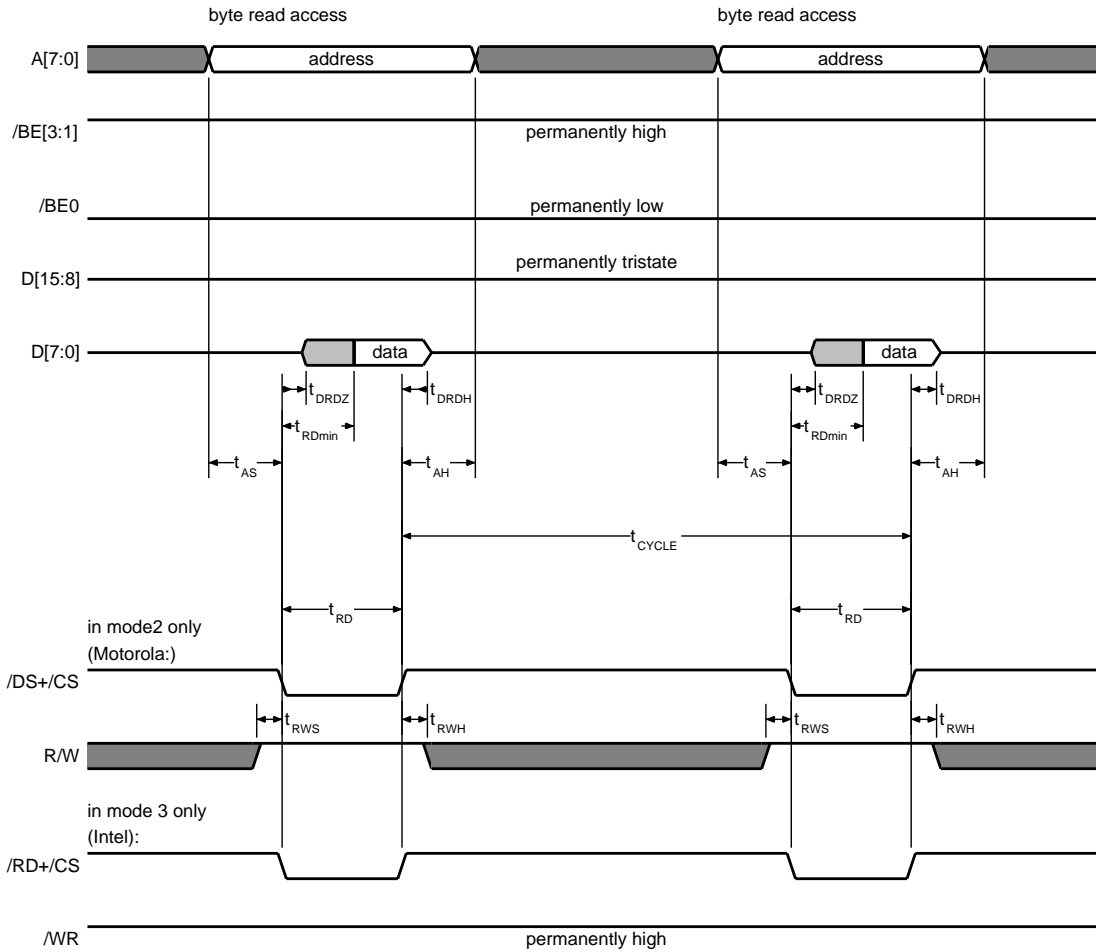

Figure 2.9: Read access from 8 bit processors in mode 2 (Motorola) and mode 3 (Intel)
Table 2.17 shows the interface signal levels for the different processor interface modes. Timing characteristics are shown in Figures 2.9 to 2.12 for mode 2 and mode 3. Figures 2.13 to 2.18 show mode 4 timing characteristics. Please see Table 2.18 for a quick timing and symbol list finding.
8 bit processors read data like shown in Figure 2.9. Timing values are listed in Table 2.20.
**Table 2.20:** Symbols of read accesses in Figures 2.9 and 2.11